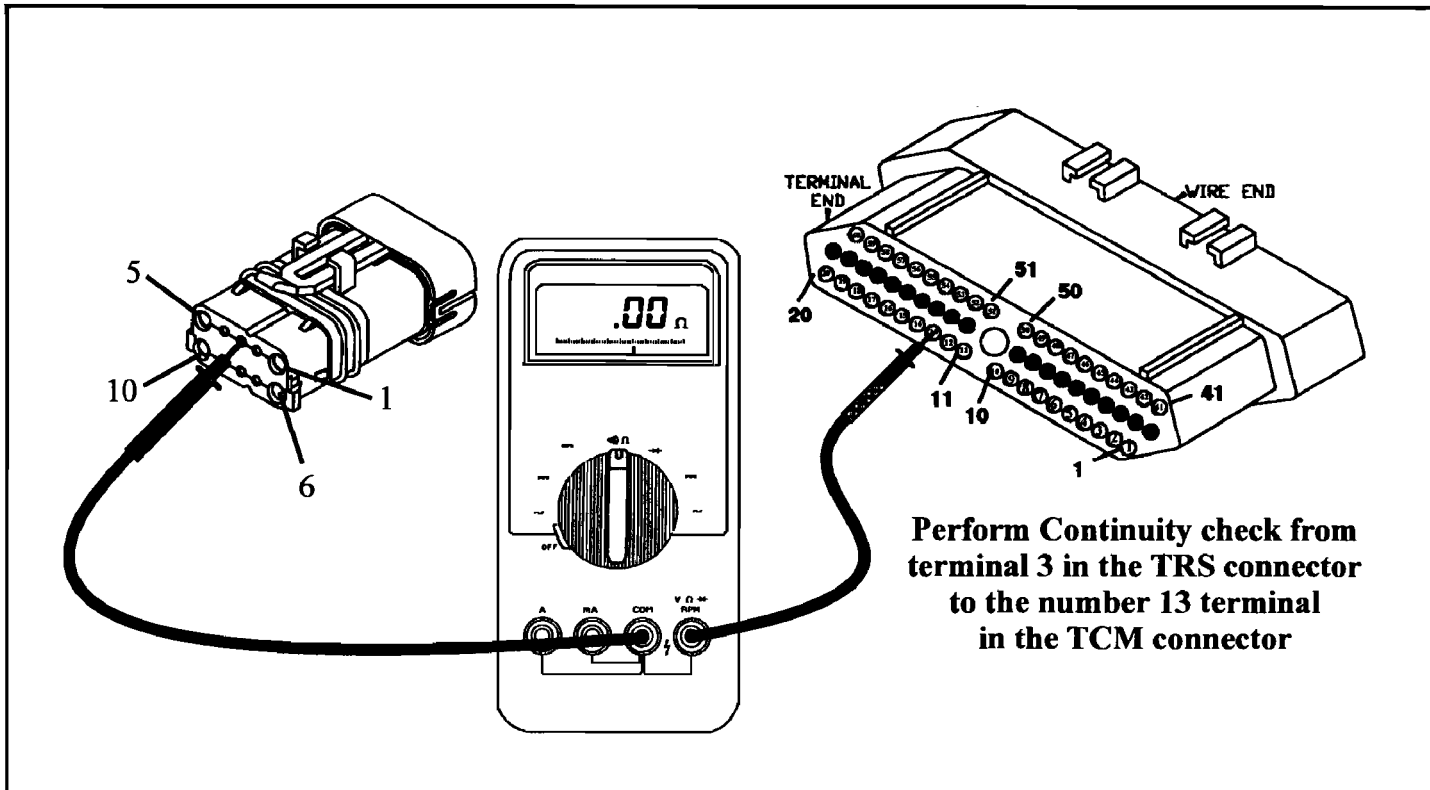

Figure 3
3. If voltage is above 4.5 volts, perform a continuity check on the TFT's ground wire by placing one meter lead to terminal 3 in the TRS connector and terminal 13 in the TCM as shown in Figure 3.